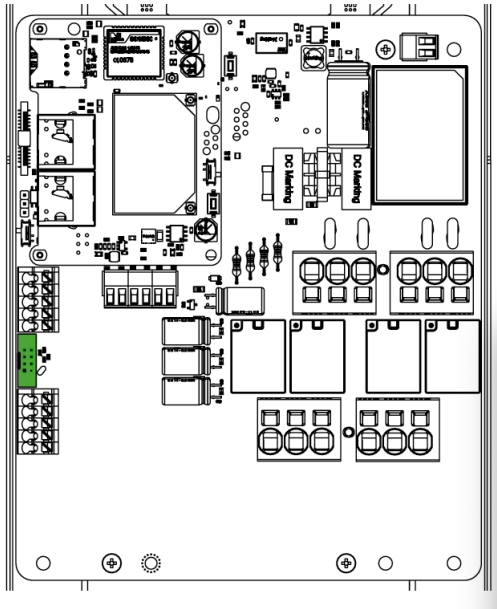

Fig. 25: PilotBox RCMB socket.
1. Connect the device to the dedicated socket on the PilotBox board. [Fig. 25]